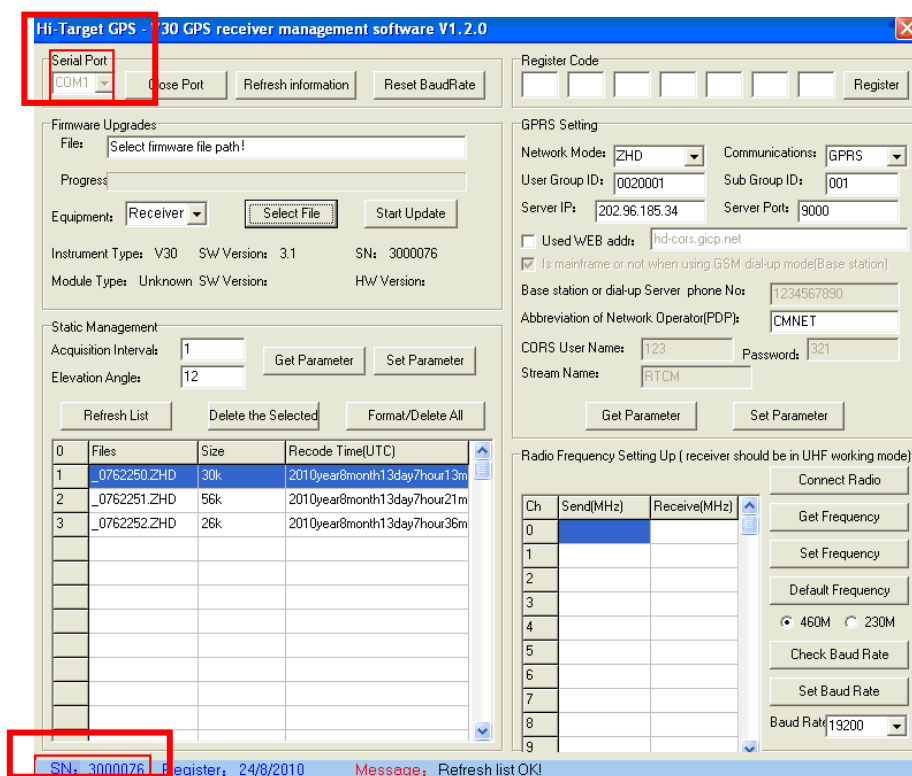

Figure 4-2
- ✧ After connecting successfully as figure 4-2: the S/N will be showed in the below